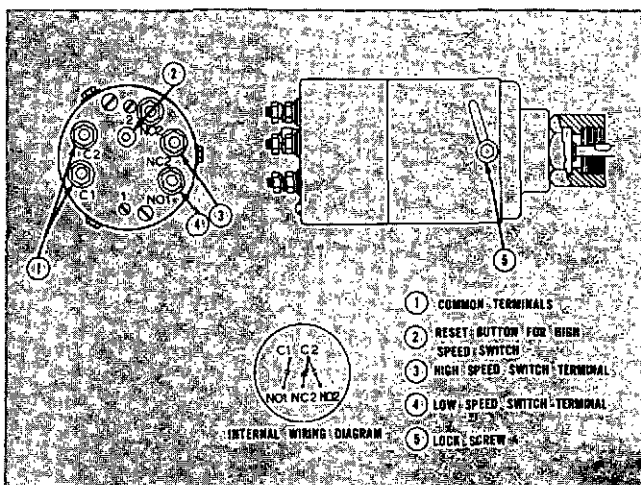

Fig. 15-1-4, CGS27. Double engine speed switch
1. Switch 1. Ref. Fig. 15-1-4.
2. Switch 2. Ref. Fig. 15-1-4